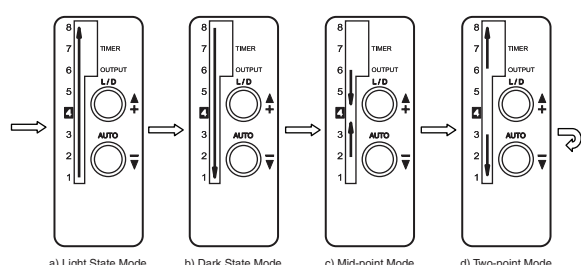

Figure 1. LED flashing sequence for automatic teach modes
- 1) Position the sensor so that its effective ultraviolet (UV) light beam is focused on the luminescent target. The target should glow when excited by UV light.
- 2) While pressing the AUTO button, repeatedly press the "+" button to scroll through the four possible automatic teach modes. The direction of the flashing contrast indicator LEDs (numbered 1 through 8) indicates the current automatic teach mode (see Figure 1). When the desired mode is indicated, release the AUTO button. Descriptions of the four automatic teach modes are below.